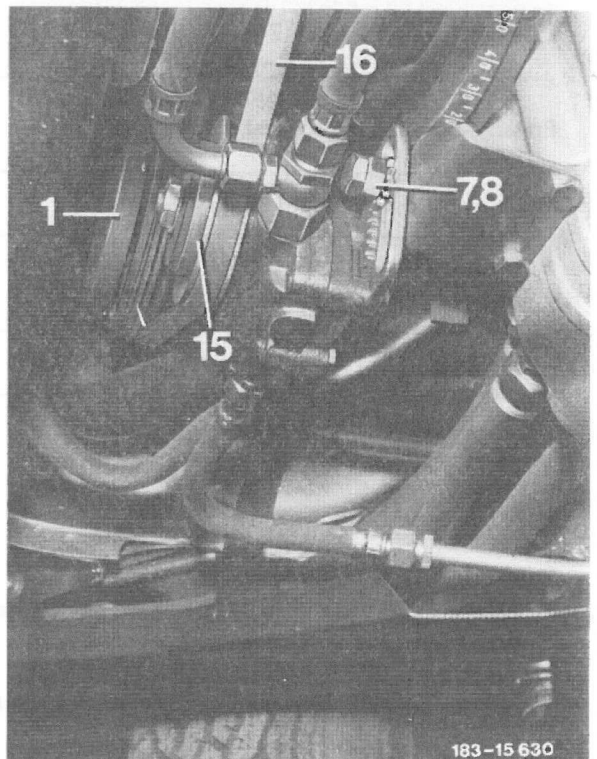

Fig. 160
- 6 Loosen belt tensioning roller (15) by slackening tensioning screw and remove V-belt (16) from refrigerant compressor and tensioning roller (Fig. 160).